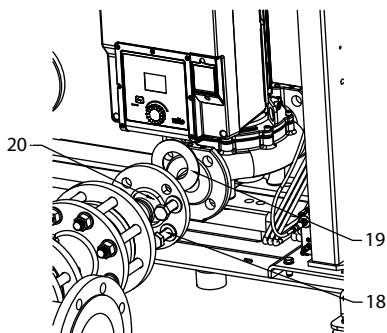

Fig. 6: Assembly
2. Insert all bolts in the lower position (Fig. 6, Item 18), but do not tighten the nuts completely.
3. Slide the seal (Fig. 6, Item 19) into the correct position for each of the pump/manifold connections.
4. Insert all bolts in the upper position (Fig. 6, Item 20).